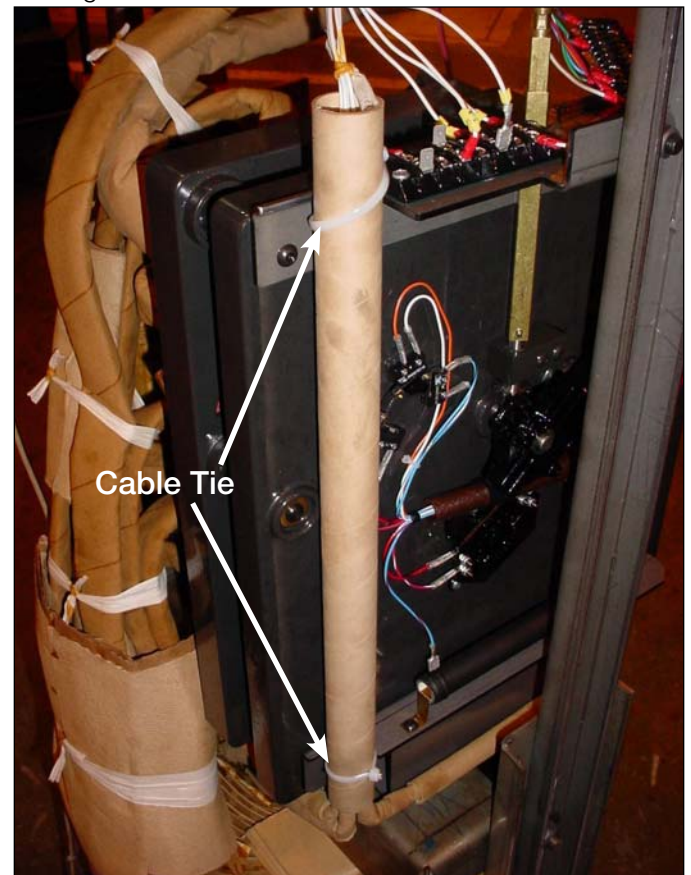

Figure 4.
2. Use a pair of diagonal side cutters cut and remove the cable-ties from the control winding hard insulation tube and tap changer top bracket assembly. See Figure 4.